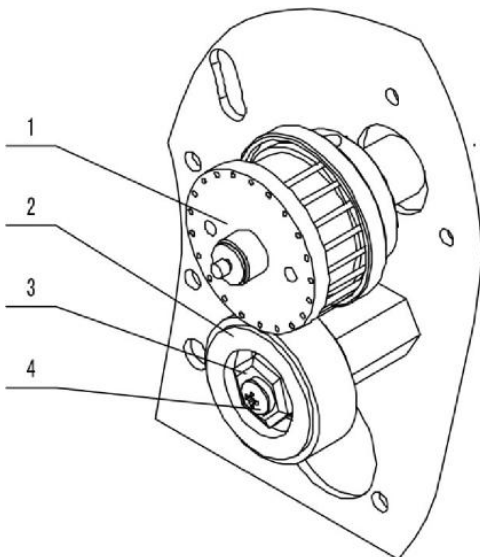

Figure 25. (1) Printing Wheel, (2) Silicone Wheel, (3) Eccentric Sleeve, (4) Screw
7. **Make Adjustments Between Printing Wheel and Silicone Wheel.** The typesets/characters on the printwheel should only touch the silicone wheel during the printing process. The characters should not touch the silicone wheel at any other time. If the band sealer is used to seal relatively thicker materials, the screw (Figure 25, Item #4) should be loosened. Rotate the eccentric sleeve (Figure 25, Item #3) to ensure the characters/typesets slightly touch the silicone wheel's surface. Refasten the screw after making adjustments.